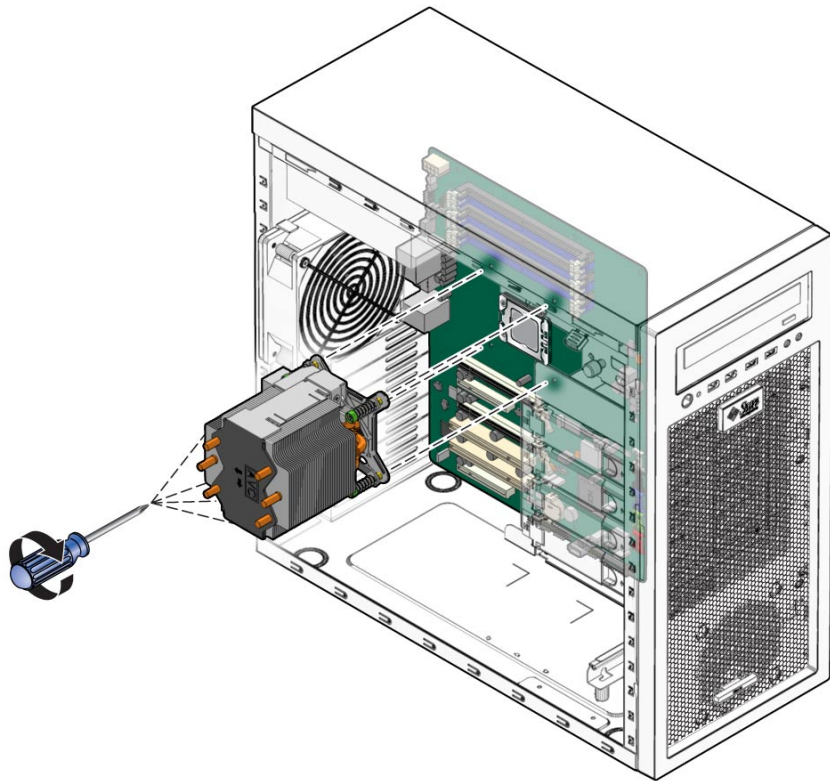

FIGURE 3–34 Installing the Heat Sink-Fan Assembly
- 26 Lower the heat sink-fan assembly onto the top of the CPU, avoiding any side-to-side movement. See Figure 3–34.